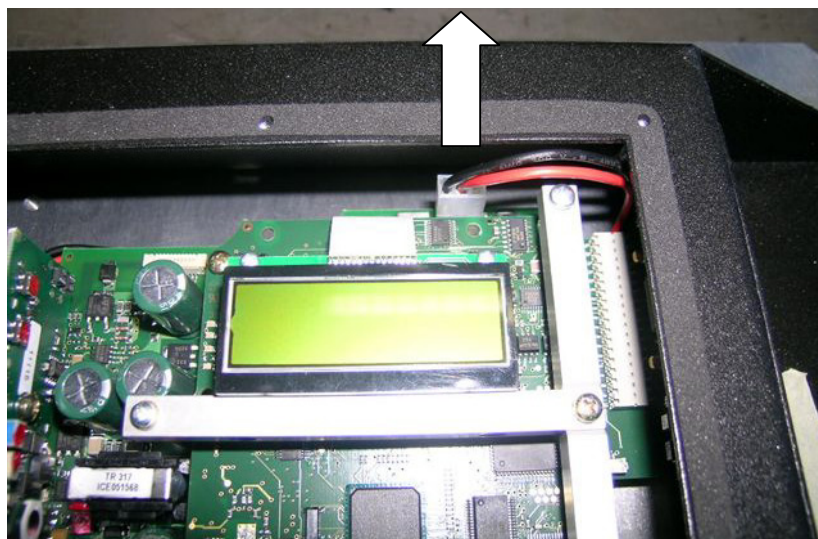

Figure 67 - Disconnecting the Vdc internal power supply connector
3. Disconnect the internal Vdc power connector, referring to Figure 67.